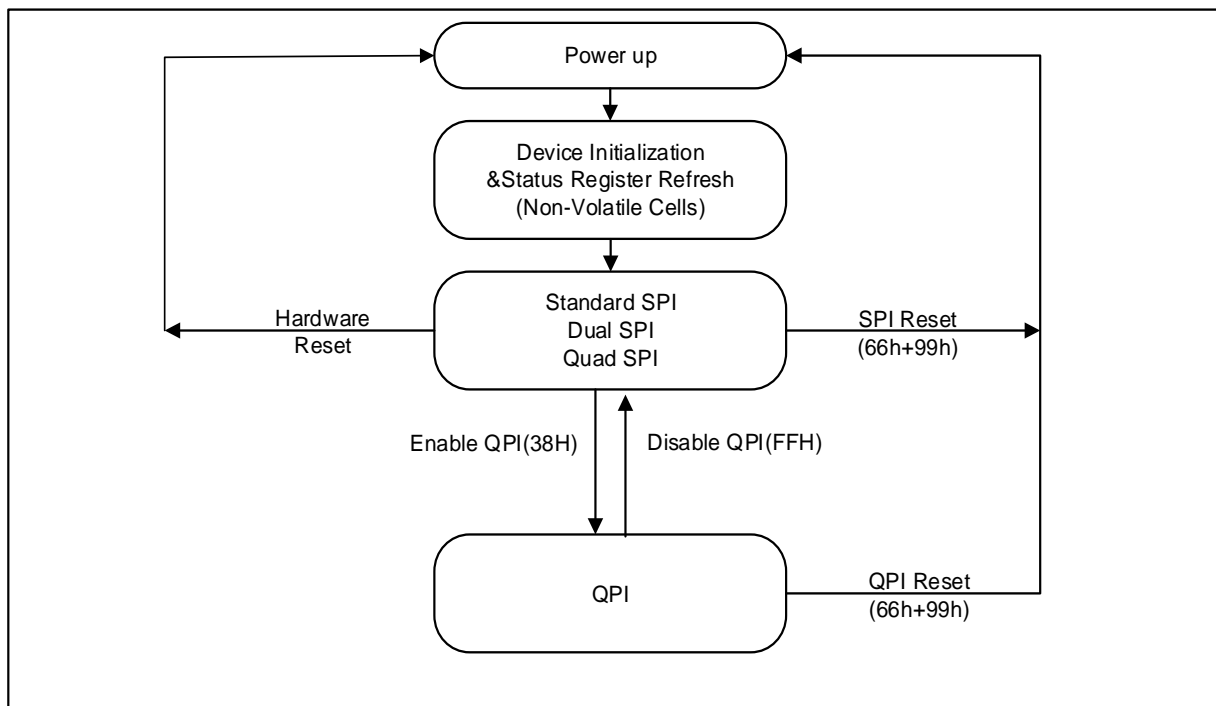

Figure 3. XM25QW16C Serial Flash Memory Operation Diagram
The XM25QW16C supports Quad Peripheral Interface (QPI) operations only when the device is switched from Standard/Dual/Quad SPI mode to QPI mode using the “Enter QPI (38h)” instruction. The typical SPI protocol requires that the byte-long instruction code being shifted into the device only via DI pin in eight serial clocks. The QPI mode utilizes all four IO pins to input the instruction code, thus only two serial clocks are required. This can significantly reduce the SPI instruction overhead and improve system performance in an XIP environment. Standard/Dual/Quad SPI mode and QPI mode are exclusive. Only one mode can be active at any given time. “Enter QPI (38h)” and “Exit QPI (FFh)” instructions are used to switch between these two modes. Upon power-up or after a software reset using “Reset (99h)” instruction, the default state of the device is Standard/Dual/Quad SPI mode. To enable QPI mode, the non-volatile Quad Enable bit (QE) in Status Register-2 is required to be set. When using QPI instructions, the DI and DO pins become bidirectional IO0 and IO1, and the /WP and /HOLD pins become IO2 and IO3 respectively. See Figure 3 for the device operation modes.